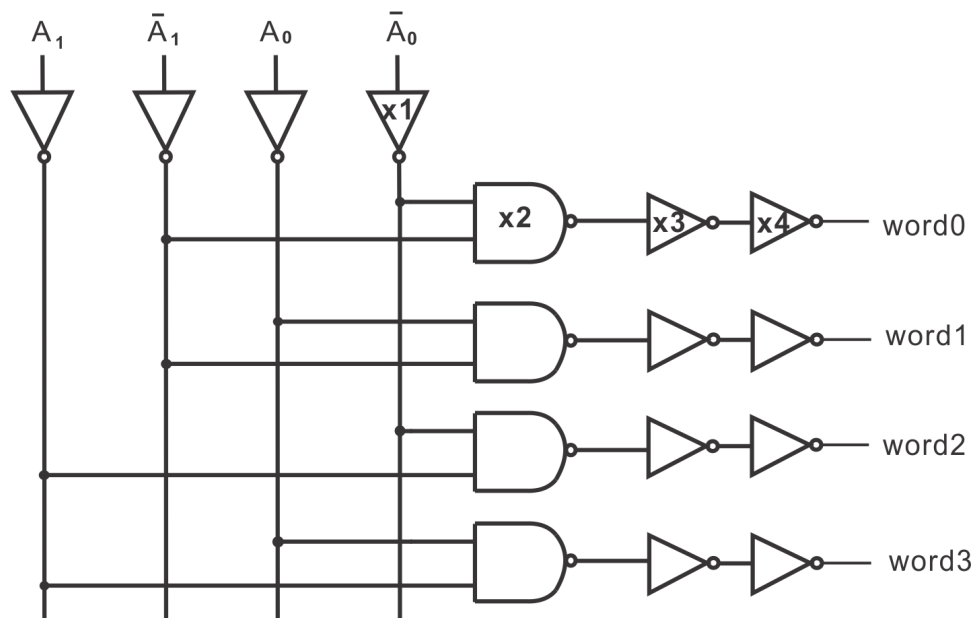

Fig. 4: Decoder.
[15] **Question 4:** Fig. 4 illustrates a 2-bit decoder for a memory circuit. The output word line is to control each word line in the memory design. For instance, if  $A_1A_0 = 00$ , word 0 is selected. If  $A_1A_0 = 01$ , word 1 is selected. Assume truth and complementary values are available as shown in the figure. The delay from the input to the output is about 6 FO4 inverters delay. Each of the output word bit should be capable of driving load capacitance of 5000 C. Please answer the following questions:
- 2) Is there alternative design to be faster than Fig. 4? And why?[2]